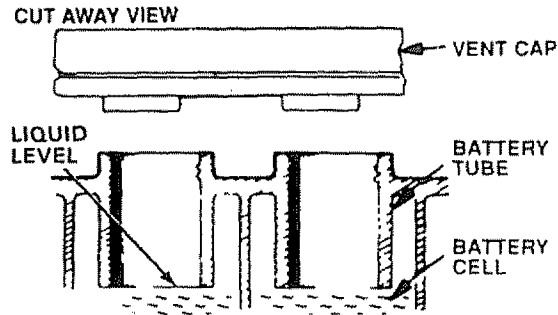

FIGURE 1
- b. Fill battery with battery acid to bottoms of tubes in cells (Fig. 1) NOTE: DO NOT OVERFILL. OVERFILLING WILL RESULT IN DAMAGE TO TRACTOR.